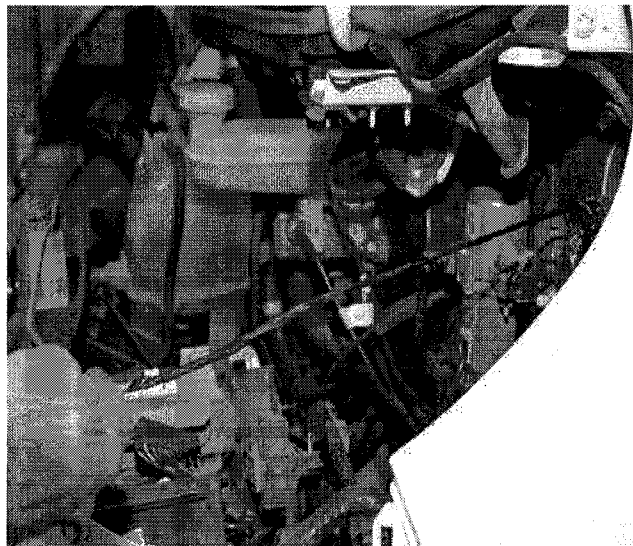

Fig. 7 Overlay Harness Through Grommet
10. Locate a straight piece of mechanic's wire approximately 1-2 feet in length. This wire will be used as a fish tape/line to pull the overlay through the grommet. Tape the end of the overlay harness referenced in Step 9 to one end of the wire. Push the other end of the wire through the grommet as close to the harness opening as possible (See Figure 7).